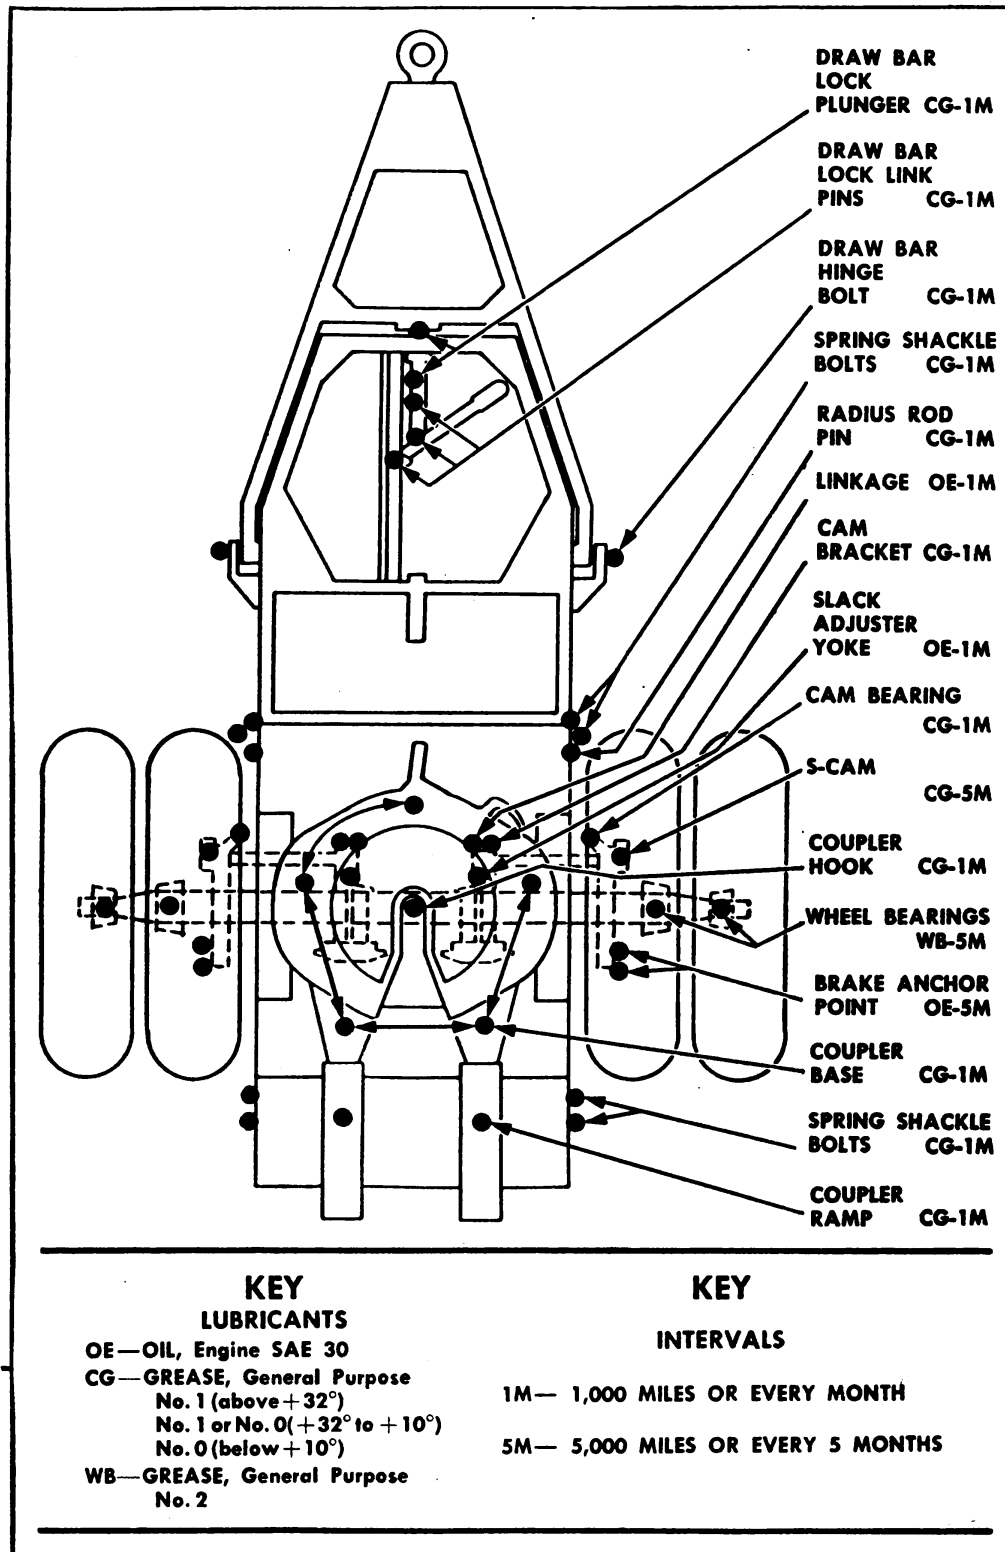

FIGURE 10. LUBRICATION—DOLLY
2. LUBRICATION.—*a. Lubrication.*—(See lubrication charts.) Figure 9 illustrates semi-trailer and coupler mounted on towing vehicle. Figure 10 illustrates dolly.